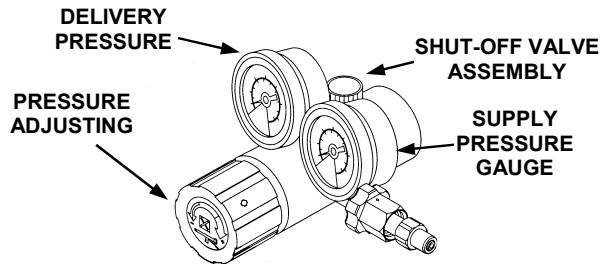
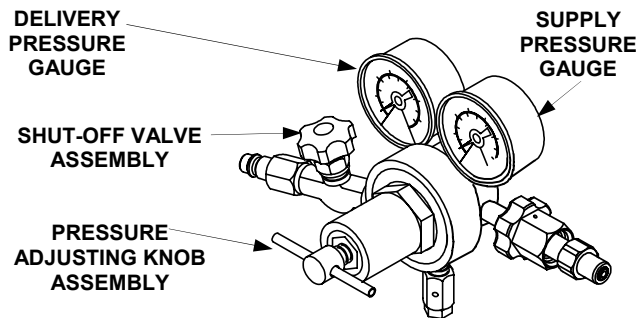

Figure 2-3. Piston Type Pressure Regulator Controls and Gauges
Figure 2-4. Diaphragm Type Pressure Regulator Controls and Gauges
- c. **Piston and Diaphragm Type Pressure Regulators.** The only controls on either a piston type pressure regulator (figure 2-3) or a diaphragm type pressure regulator (figure 2-4) are the shut-off valve assembly and the pressure adjusting knob assembly. The shut-off valve assembly is either opened to permit regulated delivery air to pressurize the lift bag system or closed to prevent (seal off) regulated delivery air from pressurizing the lift bag system. The pressure adjustment knob is turned to control the delivery pressure up to 135 psi (9.3 bar) maximum.
- c. **Piston and Diaphragm Type Pressure Regulators (Figures 2-3 and 2-4 Respectively).** Two pressure gauges are provided; the supply pressure gauge and the delivery pressure gauge. The supply pressure gauge is marked in 1000 psi increments from 1000 psi to 6000 psi (890401) and is scribed each 200 psi. The supply pressure gauge is also marked each